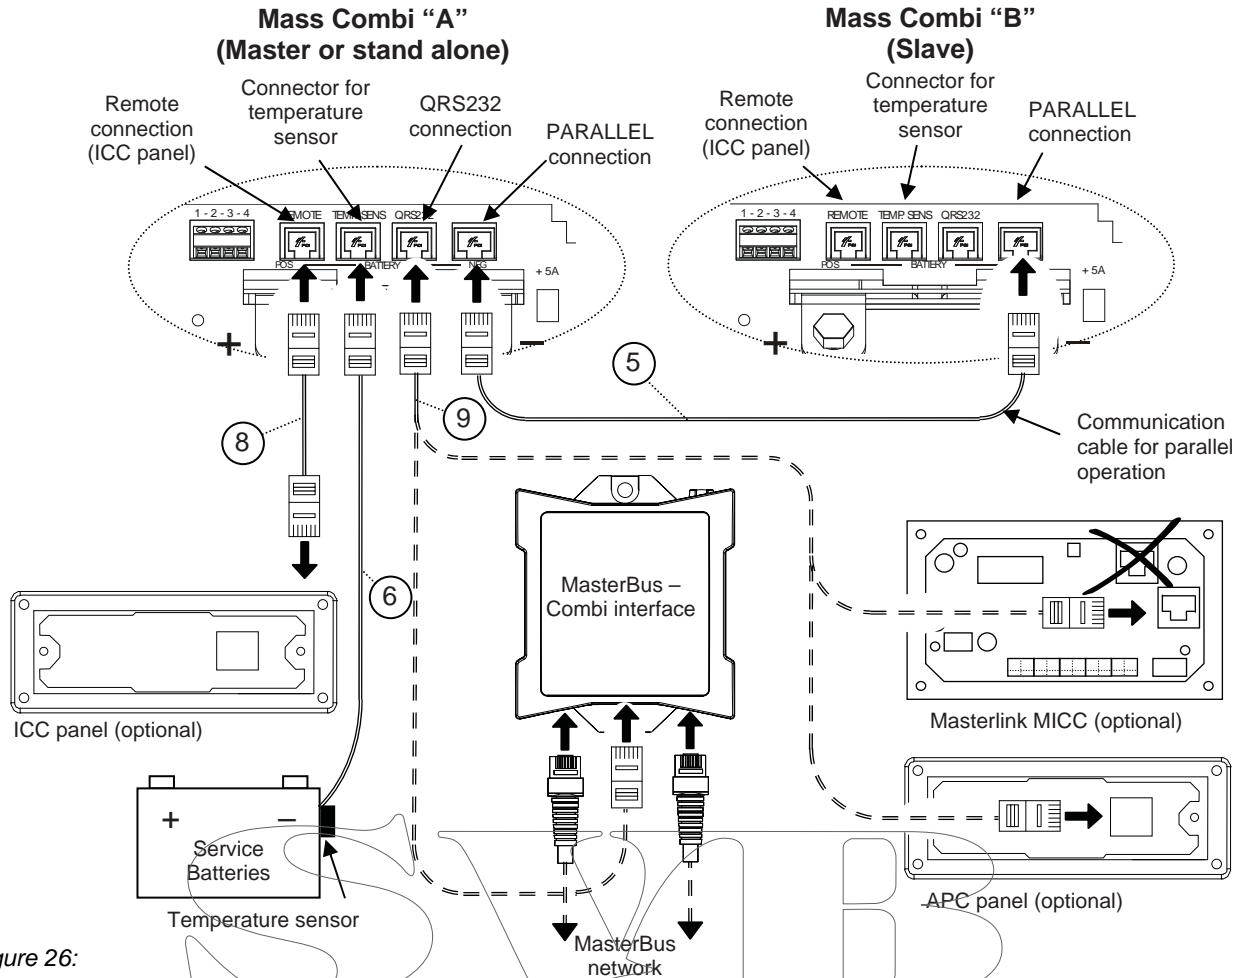

Figure 26: Connection of remote control panels, battery temperature sensors and communication cable for parallel operation
- See reference ②. Connect the "AC output POWER" of Combi "A" to the power distribution group.
- See reference ③. Connect the "AC output SHORT BREAK" of both Mass Combi "A" and Mass Combi "B" to the SHORT BREAK distribution. Beware that the L, N and PE / GND wiring may not be exchanged.
- See reference ④. Run the DC-cables between the DC-distribution and each Mass Combi. Connect the red cable to the plus (+) connection, the black cable to the minus (-) connection. Do not install the DC-fuses of the DC-distribution before the entire installation is completed (see chapter 7).
- See figure 26, reference ⑤. Run the modular 8-pole communication cable between Mass Combi "A" and Mass Combi "B". Connect this cable to the PARALLEL connectors.
- See reference ⑥. Attach the temperature sensor to the battery and run the cable into Mass Combi "A" and connect the RJ12 connector to the "TEMP.SENS"-connector (Data Bus Connections)
- 1 See figure 26, reference ⑧. If you want to install the ICC remote control panel, run the communication cable between Mass Combi A and the panel. Connect the RJ12 connector to the “REMOTE”-input (Data Bus Connections) of Mass Combi A.
- 2 The MasterBus – Combi interface or other panels than the ICC remote control panel must be connected to the “QRS232”-connection; reference ⑨. Refer to the applicable installation manual for detailed instructions.